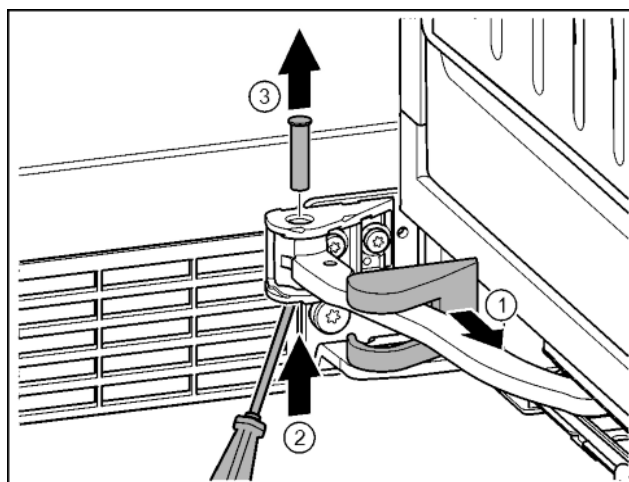

Fig. 14
- Remove the bearing bracket cover and push it along the hinge. Fig. 14 (1)
- Lift the bolt with a finger or screwdriver from below. Fig. 14 (2)
- Insert the screwdriver under the bolt head and remove. Fig. 14 (3)